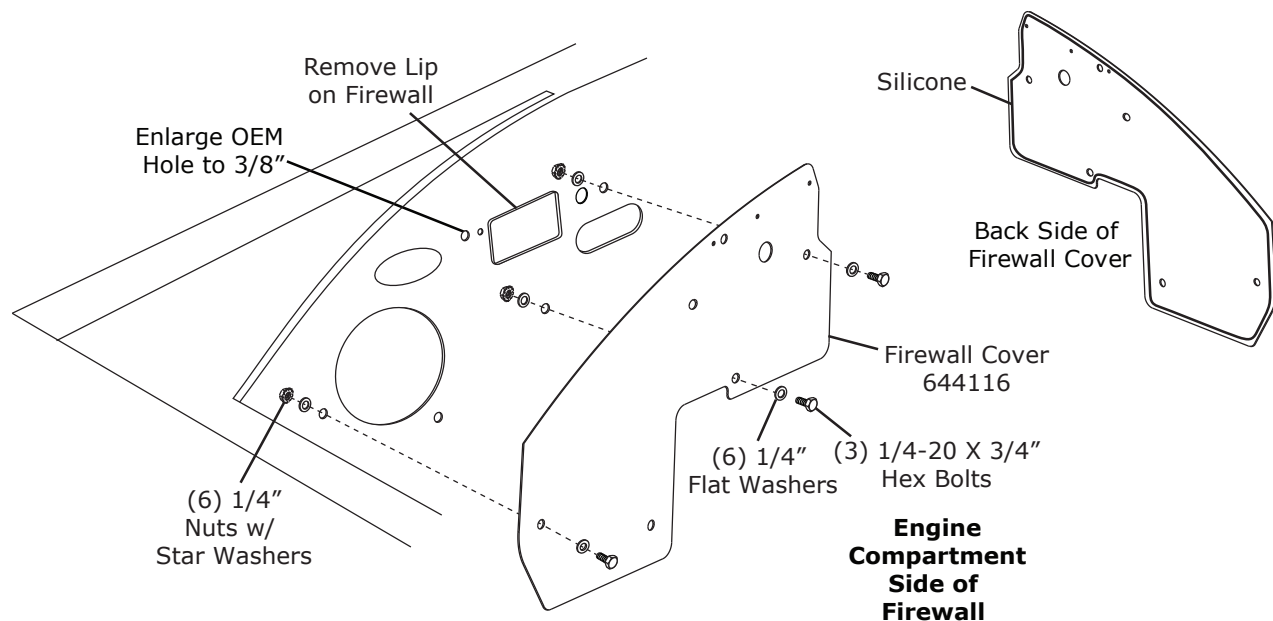

Figure 9
1. Remove lip on firewall (See Figure 9, below).
2. Enlarge OEM hole on firewall to 3/8" (See Figure 9, below).
3. Apply a 1/4" bead of silicone around the back side of the firewall cover as shown in Figure 9, below.
4. From the engine compartment, install firewall cover onto firewall and secure to firewall using (3) 1/4-20 x 3/4" hex bolts, (6) 1/4" flat washers and (3) 1/4" nuts w/ star washers as shown in Figure 9, below.